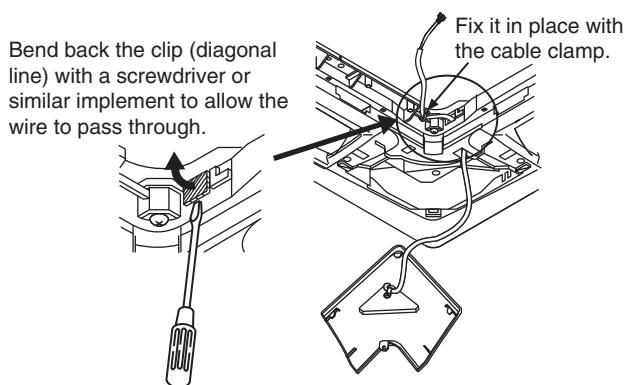

Fig. 8-3
- (3) To pass the wire through the panel, bend back the clip on the hexagonal hole (diagonal line) and then pass wire protruding from the wireless receiver through the grill. (Fig. 8-3)
- (4) After wiring according to the directions in Wiring the Receiver Unit below, leave enough wiring so the receiver's adjustable corner cap can be removed and fasten the cable clamp with its screw. (Fig. 8-3)